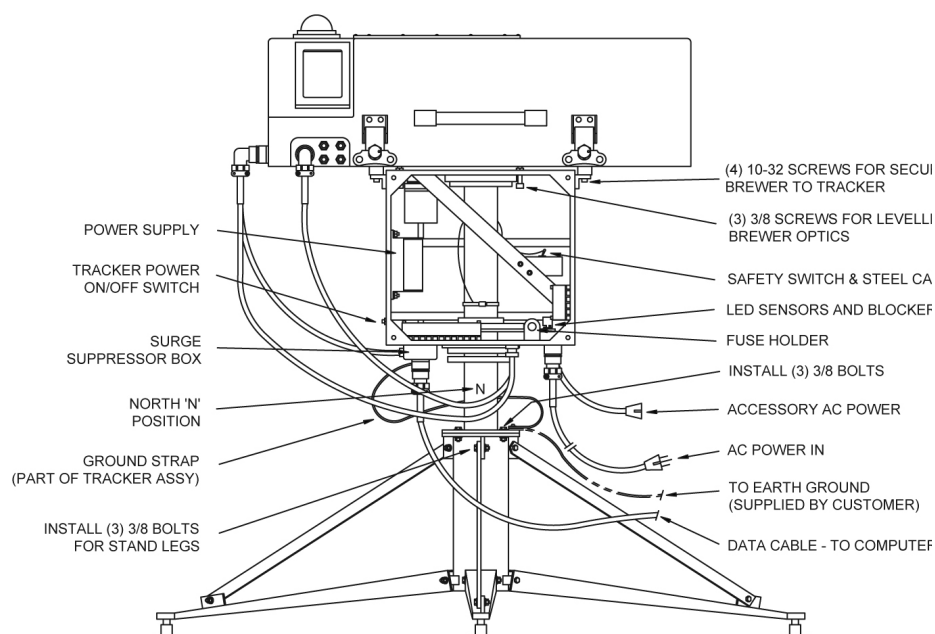

Figure 3.3: Brewer Spectrophotometer / Tracker / Tripod
#### **Refer to Figure 3.3 and Figure 5.2**
**Refer to Figure 3.3.**